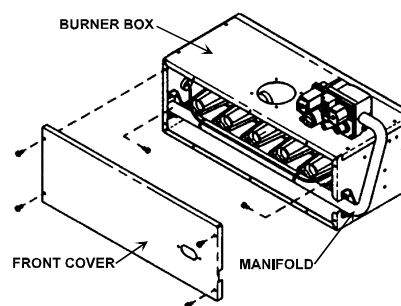

Figure 1
1. Remove the gas manifold by removing the burner box front cover (not required on all models), cutting the wire ties, disconnecting the gas valve low voltage wires, and removing the four manifold mounting screws. See Figure 1.